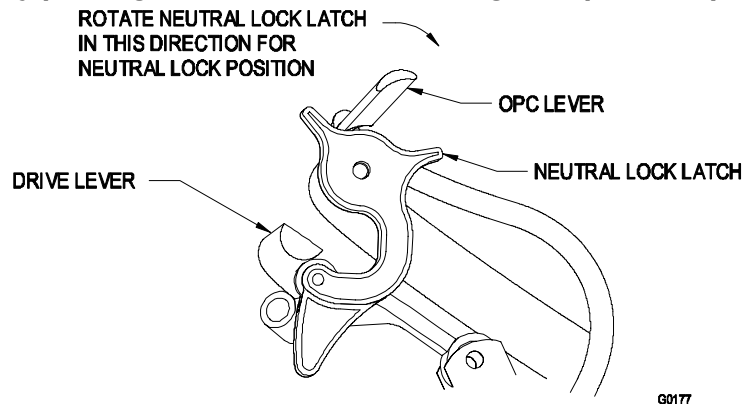
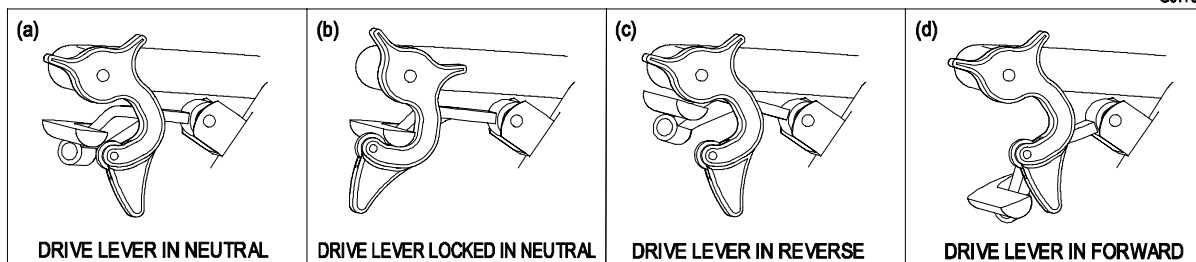

FIGURE 1
FIGURE 2
3.1.2 Operator Presence Control (OPC) Levers: Located on the upper handle assembly directly above the handle grips (See Figure 1). **When these levers are depressed, the OPC system senses that the operator is in the normal operator's position. When the levers are released, the OPC system senses that the operator has moved from the normal operating position** and will kill the engine if either the speed control lever is **not in the neutral** position or the **PTO is engaged**.
- 3.1.4 **Drive Levers:** Located on each side of the upper handle assembly directly below the handle grips (See Figure 1). These levers individually control the speed and direction of each drive wheel. When the speed control lever is moved out of the neutral position and the neutral lock latches are moved into the drive position, as shown in Figure 2, and the drive levers are released, the drive wheels are engaged in the forward direction.
- 3.1.5 **Neutral Lock Latch:** Located at the end of the handles. The purpose of these latches is to allow the operator to lock the drive levers in a "neutral" position where neither of the drive wheels are engaged in either a forward or reverse direction. (See Figure 1).
To lock the drive levers in “**neutral lock**”, squeeze the drive levers to the “neutral” position See Figure 2 (a). (Do Not squeeze at the drive levers all the way back as this will cause the drive wheels to go into the full reverse direction). Place thumbs on the inner thumb lobe of the neutral lock latches and rotate them to the “neutral lock” position. See Figure 2 (b). Release the drive levers.
To place the drive levers in the “**forward**” position, slightly squeeze the drive levers while placing thumbs on the outer thumb lobe of the neutral lock latches (or the index finger on the front lobe) and rotate them from under the drive levers. **Slowly** and **carefully** release the drive levers. See Figure 2 (d).
To place the drive levers in the “reverse” position, squeeze the drive levers past the neutral position. See Figure 2 (c).
For reverse: Squeeze both drive levers into the reverse position. See Figure 2 (c).
3.3.6 To Stop: Squeeze drive levers back to the “neutral” position. See Figure 2 (a) Move neutral lock latches into the “neutral lock” position. See Figure 2 (b) and release drive levers. Move the speed control lever to the neutral position.